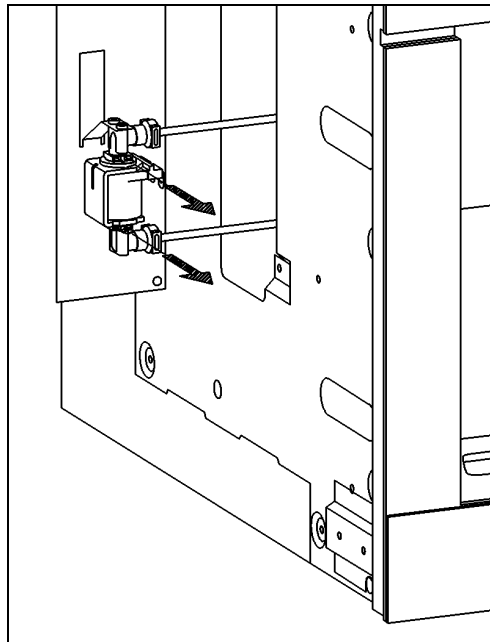

Figure 5-20: Hot-Water Solenoid Safety Springs
4. Pull out the safety springs at the hot-water solenoid connection (Figure 5-20).